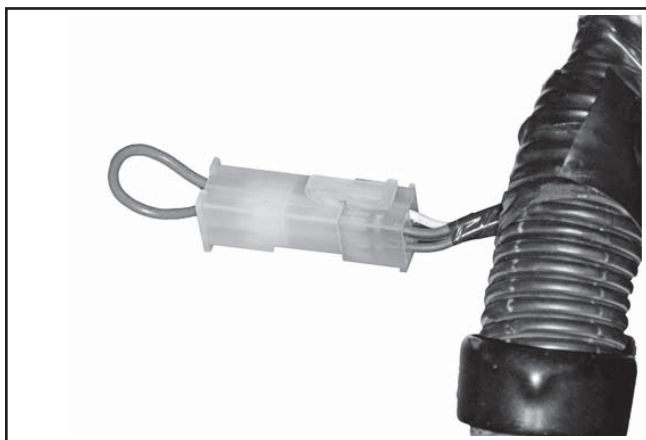

Figure 5-6. Service Port and Jumper Connector.
2. Install Red wire jumper (Figure 5-6) from Kohler EFI service kit on to service port (connect the white wire to the black wire in the 4 way diagnostic port).